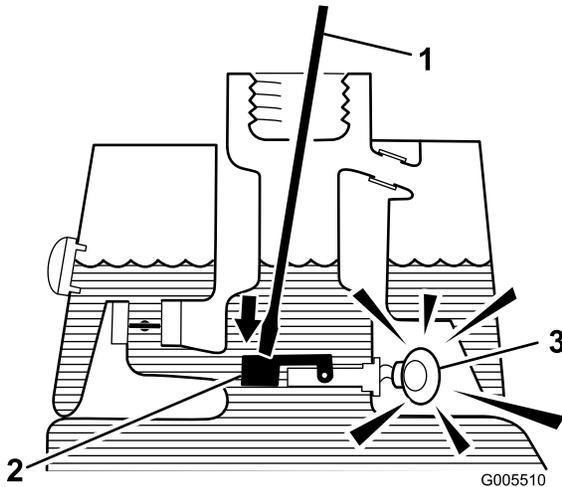

Figure 27
- Insert a clean rod or screwdriver into the tank neck and gently push down on the switch float (Figure 27). The alarm should sound after the one-second delay.